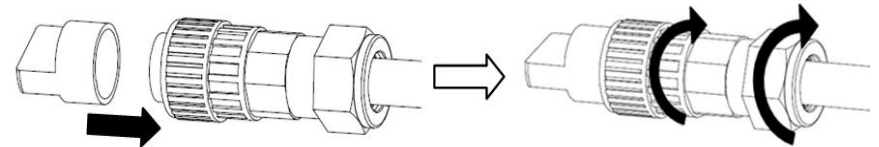

Figure 5.23 Assembly AC terminal
B) Clip plastic fixture (Auxiliary tighten) in socket element, tighten adapter in socket element, then tighten swivel nut with 3-4Nm torque (see figure 5.23).